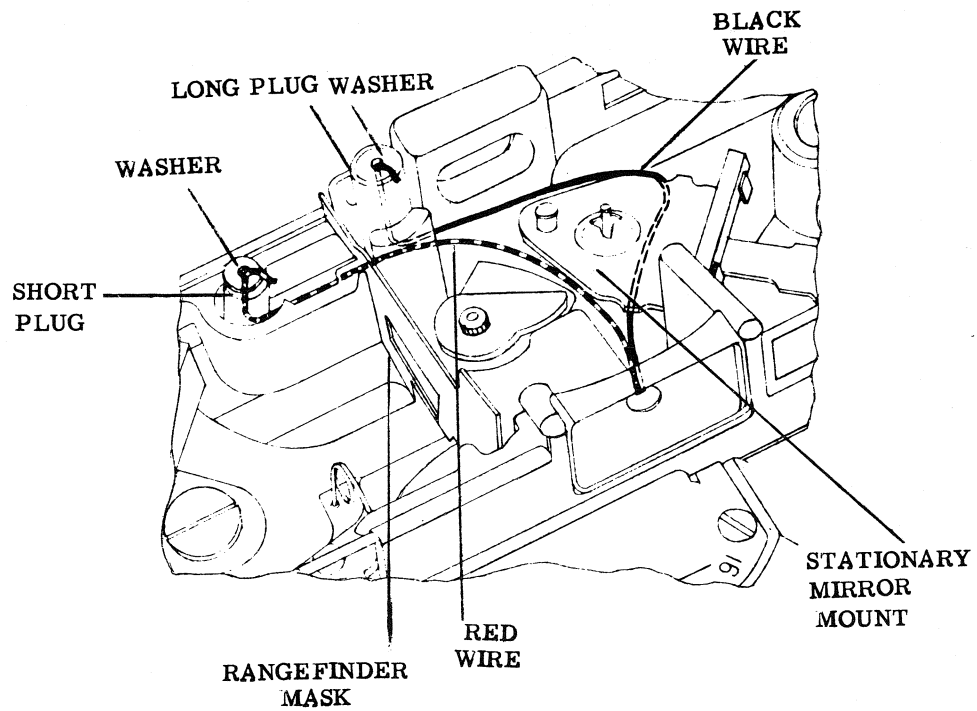

Figure 24. Synchronization Wires
- b. The red or green shutter wire is positioned in the lower or right cavity. Tuck the wire down and under the edge of the stationary mirror mount so that it will not interfere with the moveable mirror. Thread the wire through the short plug (19) and washer (20); bend the tinned end of the shutter wire over the washer and down the side of the plug (figure 24).
- c. The black wire, passing under the fixed mirror mount (figure 24), is threaded through the long plug (18) and washer (20); bend the tinned end of the shutter wire over the washer, down the side of the plug and position the plug in the left cavity.
- d. Replace the rangefinder mask (13) in its slots near the center of the camera (figure 24).
- e. The cover (8) may be reassembled at this time with machine screw (9) and self tapping screw (10).
**NOTE:** Current screw (9) is 3/16 inch long; early screw was 1/4 inch long -- either may be used, but current will be supplied on parts orders.